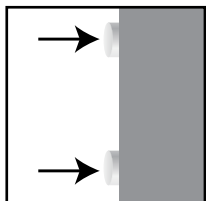

Figure 6.1
1. Make sure that the locking door bolts are retracted in the open position (Figure 6.1).